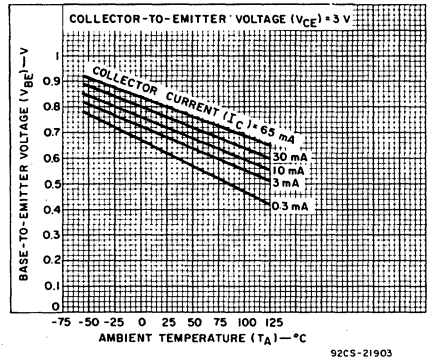

Fig. 3 — Base-to-emitter voltage vs. ambient temperature for n-p-n transistors Q3 & Q5.
1. Composite p-n-p/n-p-n Transistors Q3, Q4 (See Fig. 3)